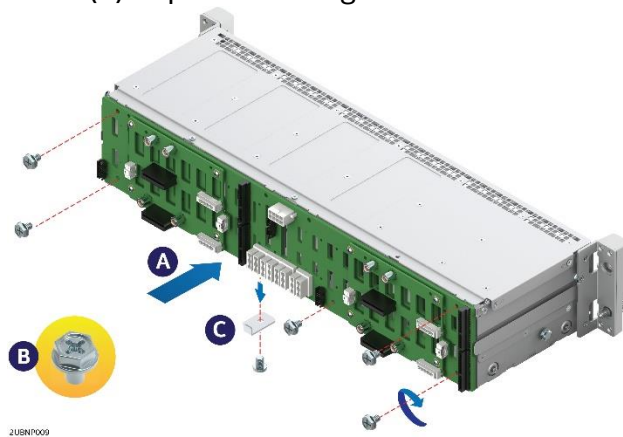

Figure 54. Installing the 24 x 2.5" hot swap backplane SAS/PCIe* SFF combo
1. Attach the backplane board to the drive cage (A), fix the backplane board with the five screws (B), and install the bracket with the screw (C) as pictured in Figure 54.